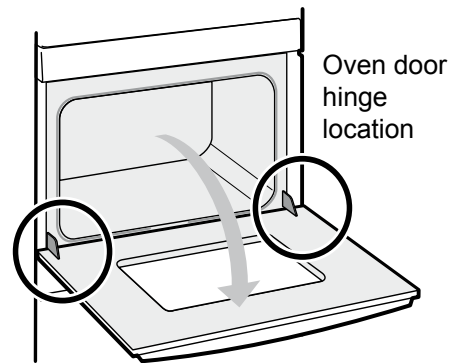

Figure 1 - Door hinge location
1. Open oven door completely (horizontal with floor- Fig. 1).
3. With both door hinge arms in place, open the oven door (horizontal with floor- Fig. 1).